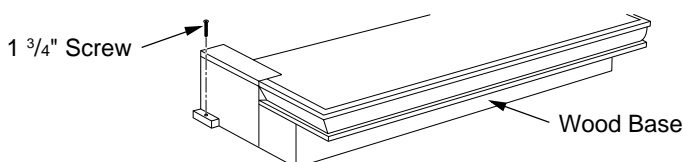

Figure 14 - Attaching Wood Base to Floor
10. Attach wood base to floor with two 1 3/4" black screws provided (see Figure 14). If the floor is concrete use anchor method (see *Attaching Wood Base to Solid Floor*, page 14).
15. Adjust assembly to remove any gaps. Attach remaining two 3" wood screws from hardware pack through openings inside of fireplace sides into the mantel. The openings are located at top behind the area for the brass louvers (see Figure 14).